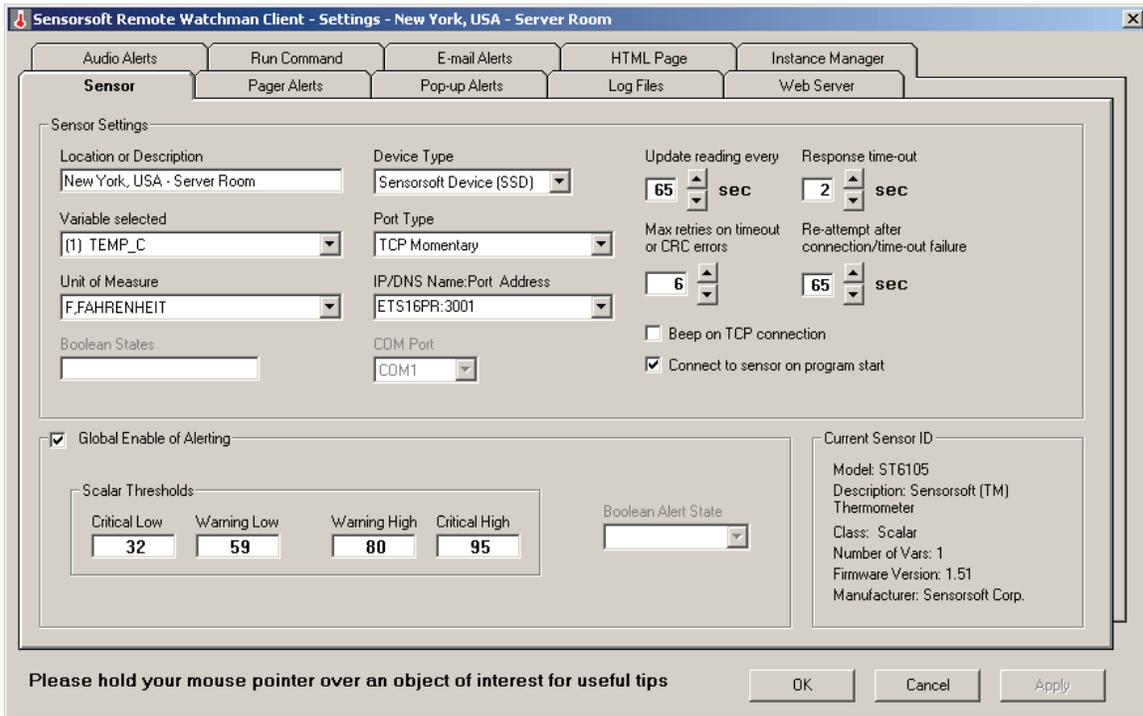

Figure 2
**Current Sensor ID:** When the first reading of the SSD is taken, the software will automatically complete the following fields (see *Fig. 2*): Model, Description, Class, Number of Vars, Firmware Version and Manufacturer.